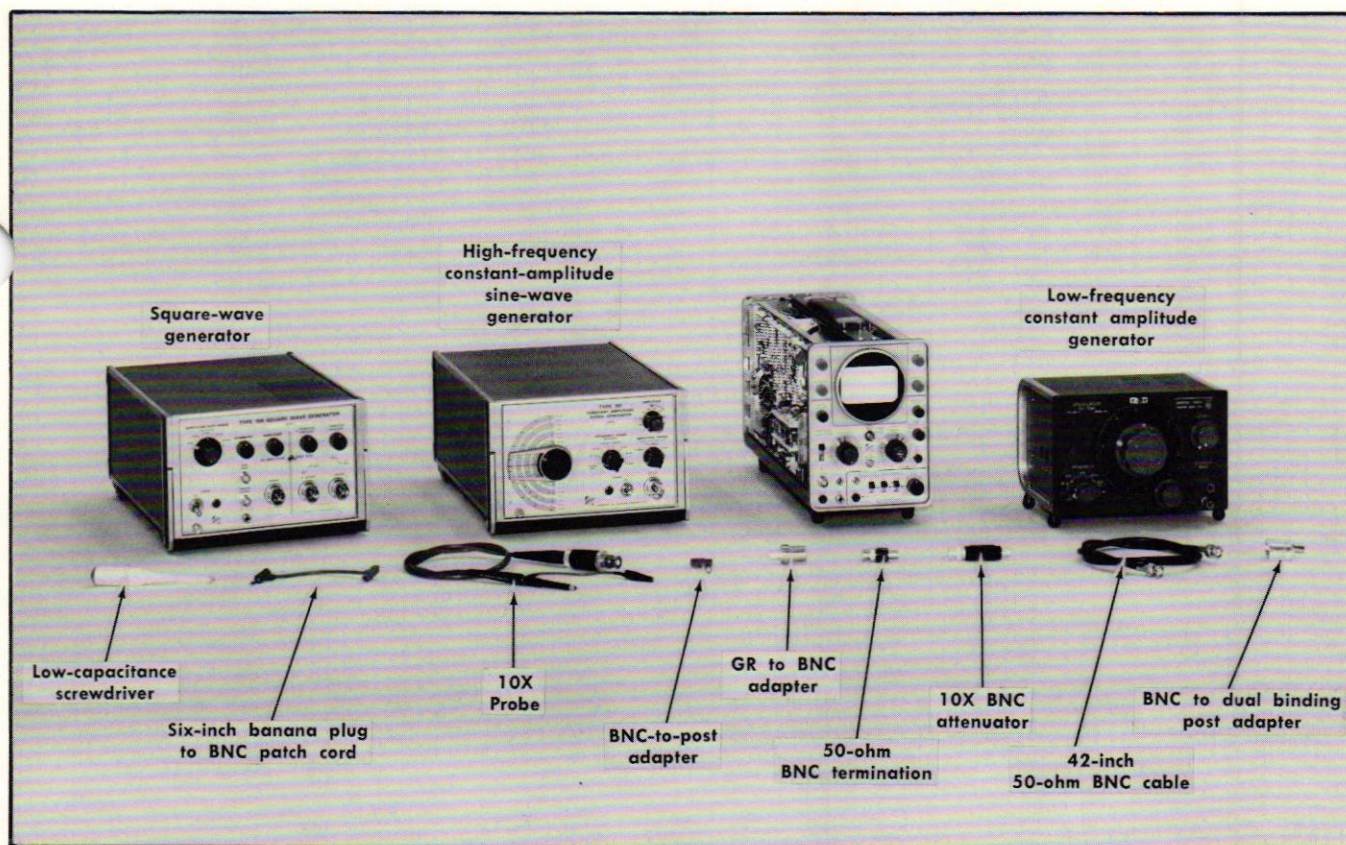

Fig. 5-11. Equipment required for steps 22 through 28.
a. Equipment required for steps 22 through 28 is shown in Fig. 5-11.